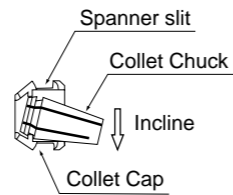

Fig. 18
- 2 To remove the collet chuck from the collet cap, hold the collet cap in one hand and incline the collet chuck toward the spanner slit of the collet cap. (Fig. 18)
- 3 To mount a new collet chuck, incline the collet chuck toward the spanner slit of the collet cap and insert. (Fig. 18)